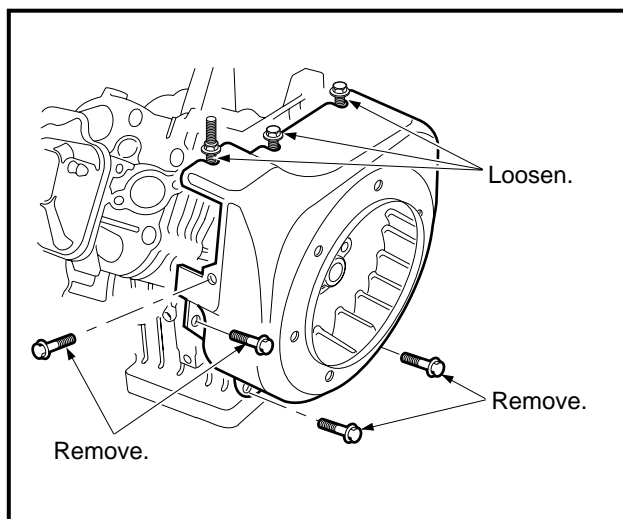

Figure 13-61 Flywheel Housing
1. Loosen three screws and remove the remaining four screws attaching the flywheel housing as shown, then remove the housing (**Figure 13-61, Page 13-31**).